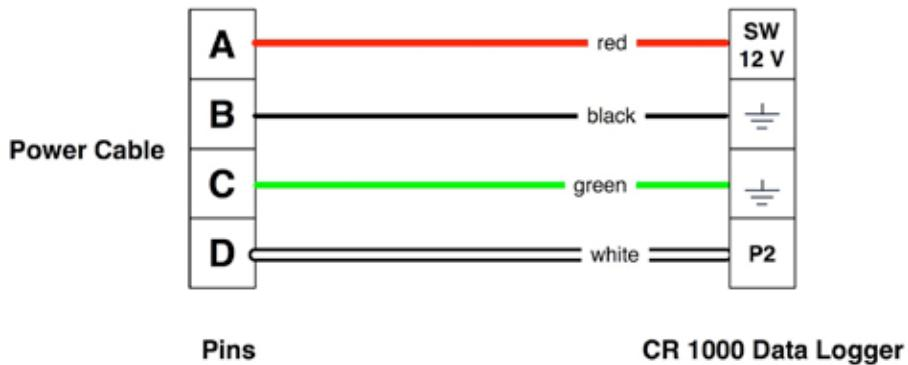

Figure 15. Diagram showing the correct way to connect the power cable terminals to the data logger.
8. **Connect the power and tachometer cables to the data logger.** Following the same process, connect the power cable (which carries the tachometer signal) in the appropriate slots in the data logger (make sure the power cable goes into the SW-12 V slot). Use Figure 15 below as a reference.